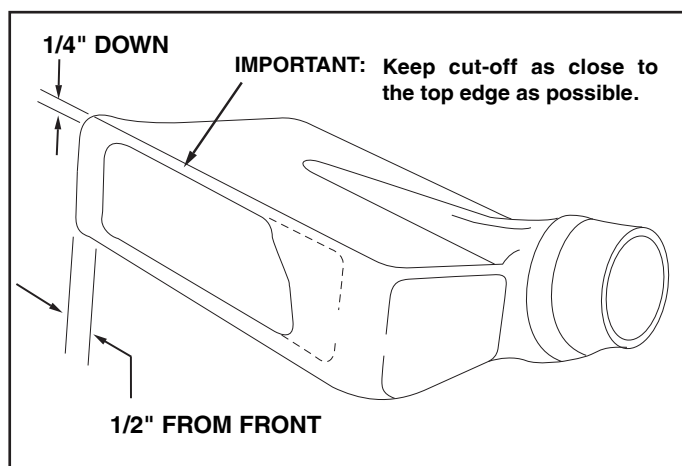

FIGURE 23
- Tape the template to the face of the adapter, locating template approximately 1/2" from front and 1/4" down from top of adapter. Keep as close to top as possible. See figure 23. Mark outline of template on face of adapter using white crayon, nail or scribe. Drill a starting hole inside the outline, then use a saber saw or key hole saw to cut out the opening. See figure 23.